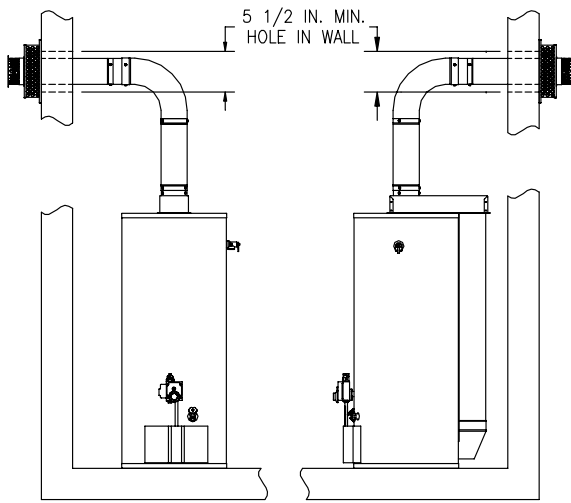

Figure 11
1. Cut a 5-1/2 inch (13.6 cm) diameter minimum clearance hole in the wall at the point where the vent-air intake tubes will pass through the outside wall and connect with the direct vent-air intake terminal. (See Figure 11).